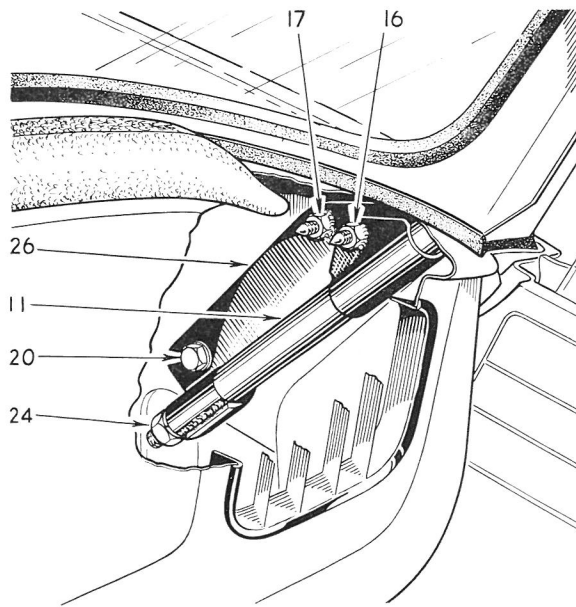

Fig. 10. Screen pillar fixing
Remove three bolts (22) with cover plates (21), one nut (24) with washer (25) from the bottom of each screen pillar (11). These nuts are accessible under the fascia, Fig. 10.